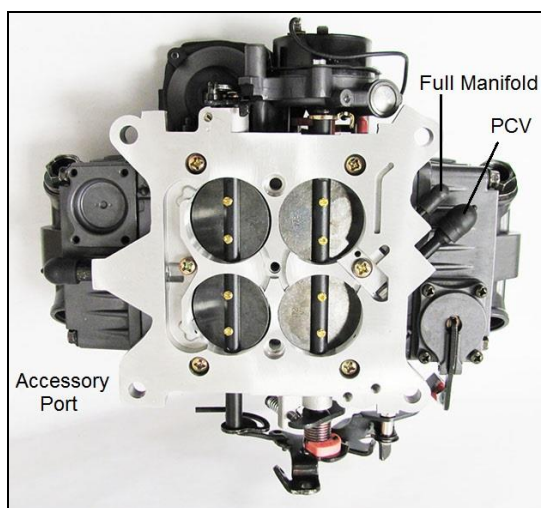

Figure 3
1. Attach the vacuum gauge to a manifold vacuum port on the throttle body (**Figure 3**).